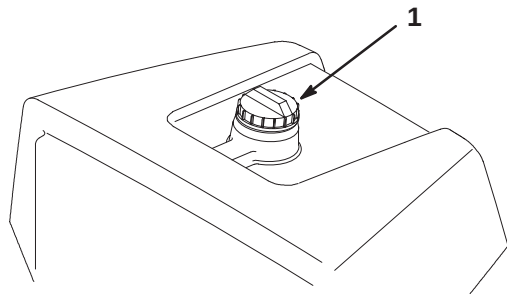

Figure 16
1. Clean around the fuel tank cap and remove the cap (Fig. 16). Add unleaded regular gasoline to the fuel tank until the level is 1 in. (25 mm) below the bottom of the filler neck. This space in the tank allows gasoline to expand. Do not fill the fuel tank completely full.